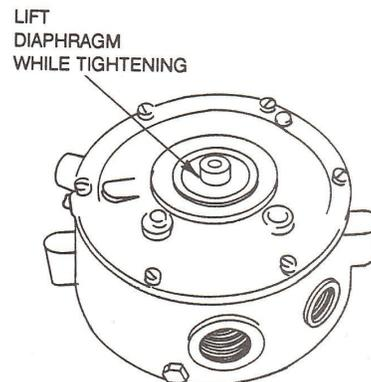

Figure 48. Diaphragm Positioning
(3) Locate cover on aligning pins and install three front cover screws. Remove aligning pins and insert remaining screws. DO NOT TIGHTEN. (The front cover may be installed in any position, however, it should be placed so that Century is over the secondary valve.)
(4) Lift diaphragm up against cover by pulling with pliers through center hole in cover. Tighten all screws while lifting diaphragm. (Figure 48)
(5) Install primer and check for operation with 6 or 12 volt power source. Check for clearance between diaphragm assembly and primer plunger tip. If no clearance exists, recheck lever setting.
(6) Apply air pressure to inlet fitting and check for secondary valve leakage with soap bubble over vapor outlet. Depress primer manually or electrically to check for fuel flow. Volume need not be great but should be audible.